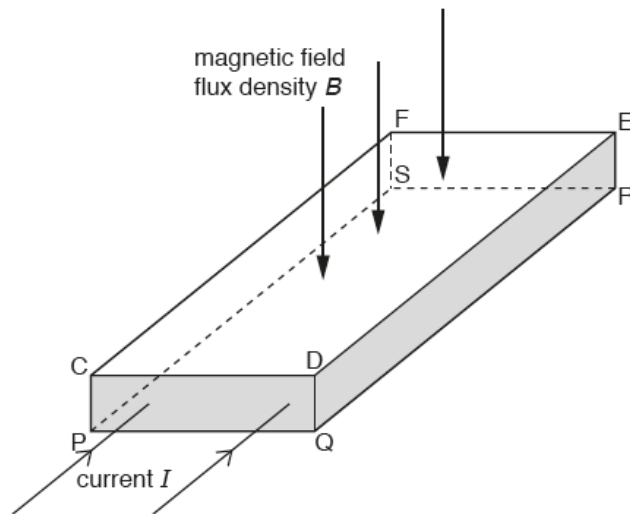

Fig. 5.1
- 5 (a) A thin slice of conducting material is placed normal to a uniform magnetic field of flux density B , as shown in Fig. 5.1.